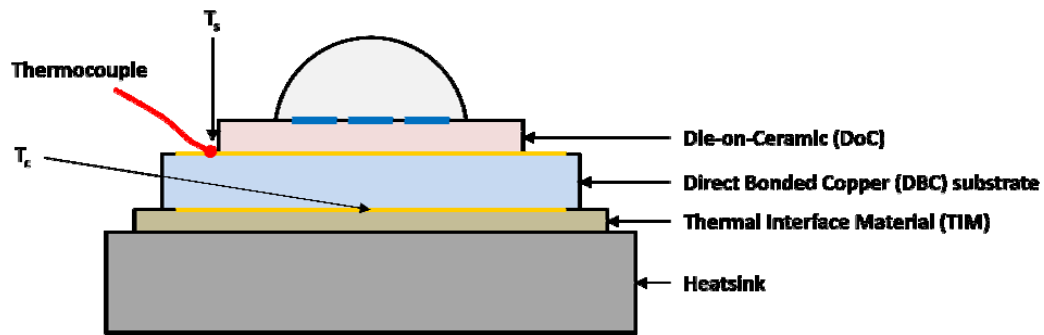

Figure 8. Cross-section of LUXEON S emitter on heat sink.
- Drill and tap the holes as per Figure 8 and wipe the heat sink surface clean with isopropyl alcohol (IPA).
The LED junction temperature T_j can be calculated as follows: $T_j = T_c + R_{\theta_{\text{junction-case}}} P_{\text{LED}}$. In this equation T_c is the case temperature at the bottom of the DBC substrate (see Figure 8), $R_{\theta_{\text{junction-case}}}$ is the thermal resistance between the junction and the case (see datasheet DS80), and P_{LED} is the total electrical power into the LED. Since the case temperature T_c cannot be measured directly, Philips Lumileds recommends measuring the temperature at the top of the DBC substrate T_s instead, as shown in Figure 8. The relationship between temperatures T_c and T_s has been experimentally determined as $T_c = T_s - 0.5^{\circ}\text{C}$.